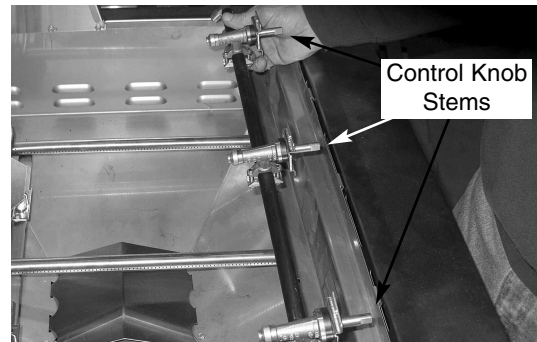

Fig 14
15. Start by placing the new manifold into the grill body with the control knob stems going outward through control panel front. (See Fig. 14)